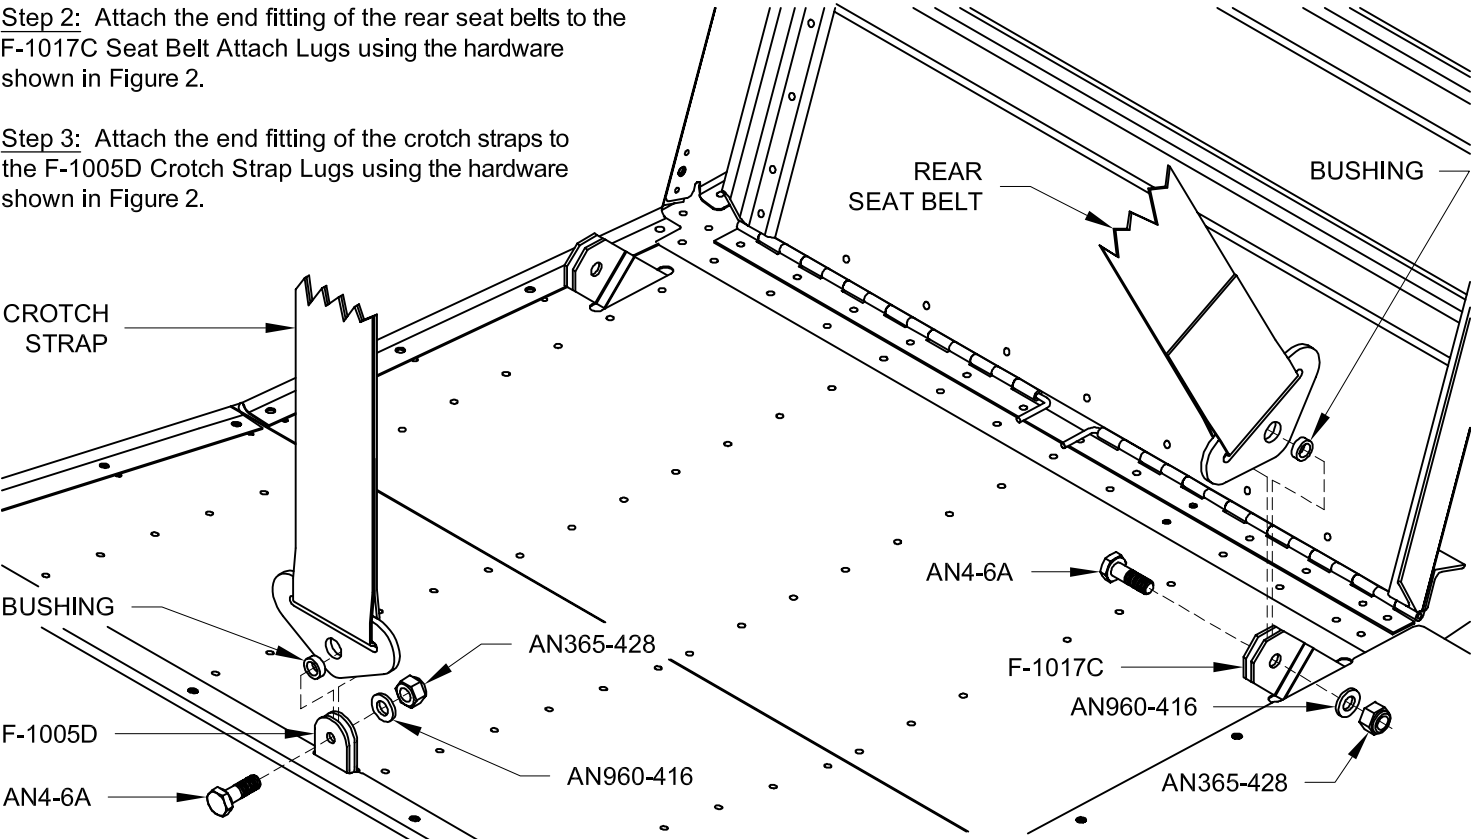

FIGURE 2: REAR SEAT BELTS AND CROTCH STRAP
Step 2: Attach the end fitting of the rear seat belts to the F-1017C Seat Belt Attach Lugs using the hardware shown in Figure 2.
Step 3: Attach the end fitting of the crotch straps to the F-1005D Crotch Strap Lugs using the hardware shown in Figure 2.